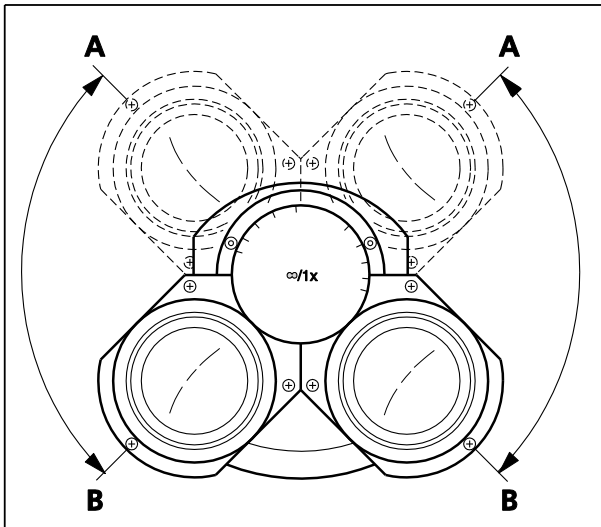

Fig. 2-12 Adjusting the Viewing Height on the Binocular Tube
- vary the viewing height by tilting the eyepiece tubes upward (Fig. 2-12/A) or downward (Fig. 2-12/B).